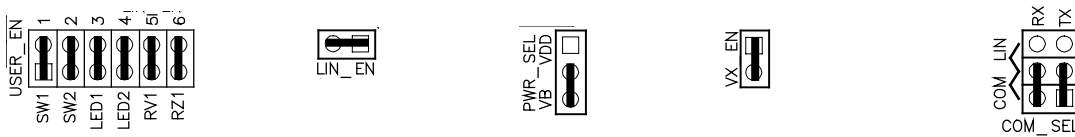

Figure 1: DEMO9S08EL32 Default Settings
1. Verify the configuration jumpers are set to the default position. Refer to Figure 1 above.
- Ensure PWR_SEL jumper is set to VB position (refer to Figure 1 above)
- Ensure COM_SEL jumpers are set to COM position (refer to Figure 1 above)